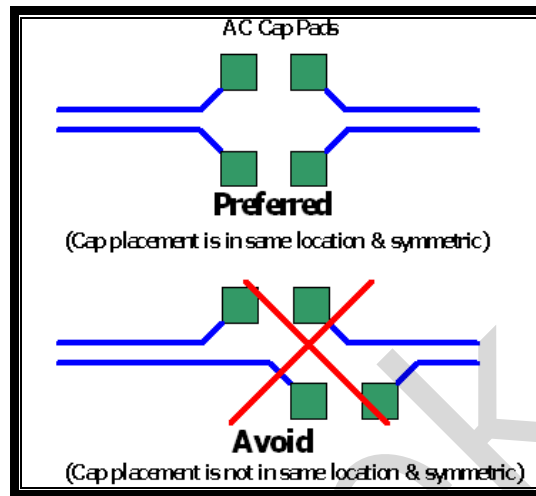

Figure 18. Symmetrical Routing Into AC Caps
- 17) Locate capacitors for coupled traces at the same location along the differential traces and near output pins of differential pairs (refer to Figure18).